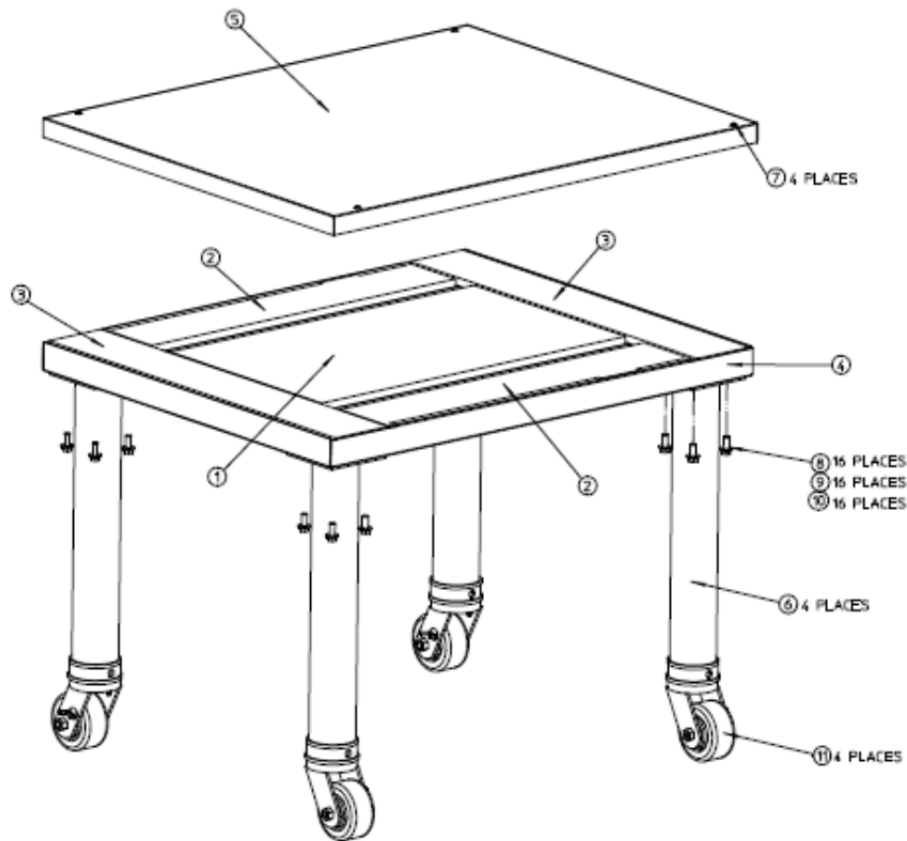

Figure 2-1
1. Locate the carton containing the oven base. Remove and inventory the contents. Refer to the correct parts lists below and also to Figure 2-1
2. Lay weldment base (Item 4, Figure 2-1) upside down on the floor and remove the protective film from base. Attach the four Assy. Leg, Caster (Item 5) using 16 SCR, Cap HX HD 3/8"-16X1" NP (Item 10), 16 Washer, Flat SS 3/8" (Item 9), and 16 Washer, Lock Split 3/8" ZP (Item 8). For Quad screw casters directly into basepad.